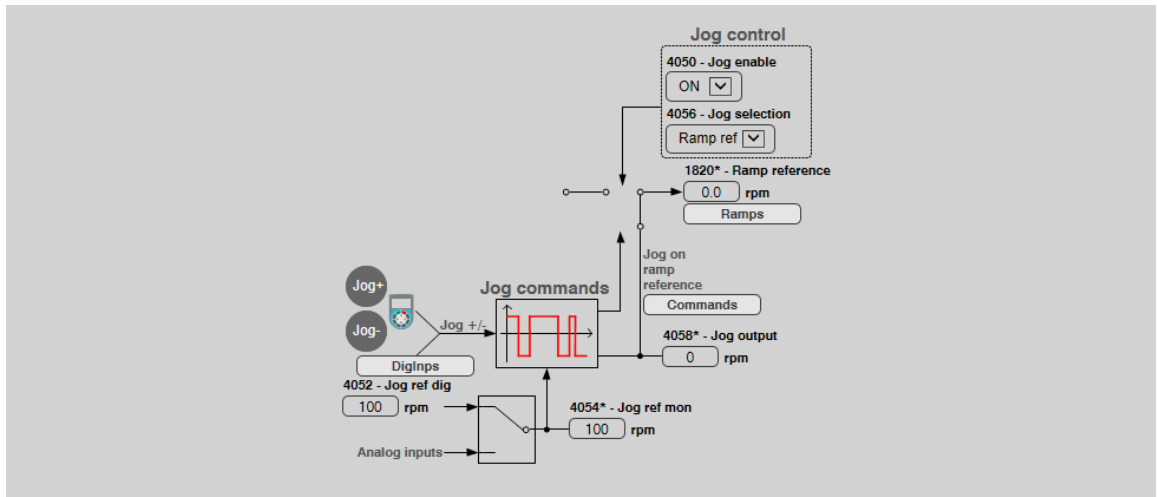

Figure 6-82: Jog reference management with Jog Selection = Ramp Ref
If parameter IPA 4056-**Jog selection** is set to **Ramp ref**, the Jog output acts directly after the ramp reference chain, bypassing all previous contributions (**Ramp ref 1 mon**, **Ramp ref 2 mon**, **Multi speed**, **Motorpotentiometer** and **Test generator**) (see Figure 6-82). In this case, the Jog output acts directly on Ramp reference and is therefore subject to the ramp function.